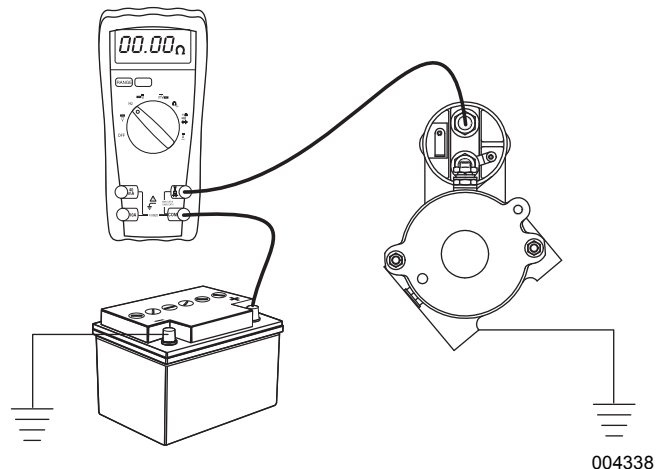

Figure 8-4. Test Starter Voltage Drop
2. See Figure 8-4. Place DMM (+) positive lead on starter battery terminal stud, and (-) negative lead on starter housing. Crank engine and observe DMM reading.
4. See **Figure 8-4**. Set DMM on the 2V scale. Place DMM (+) positive lead on (+) positive battery post, and DMM (-) negative lead on starter (+) positive terminal stud. With engine still disabled, crank engine and observe DMM reading. There should be less than a 0.2 V drop. If drop is greater than 0.2 V, check each wire and terminal connection. No more than 0.2 volts should be observed at each connection.